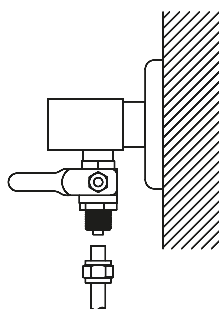

Figure 8. Mains inlet valve
• Mains water is supplied to the system by opening the 1/4 ball valve (Figure 8). It is seen that the pump is running.\*\*
• When there not anyone in the house, close the water inlet valve of the appliance for safety purposes (Figure 8).
• In any unfavorableness (Figure 8) close the water inlet valve and consult Ihlas Authorized Service.